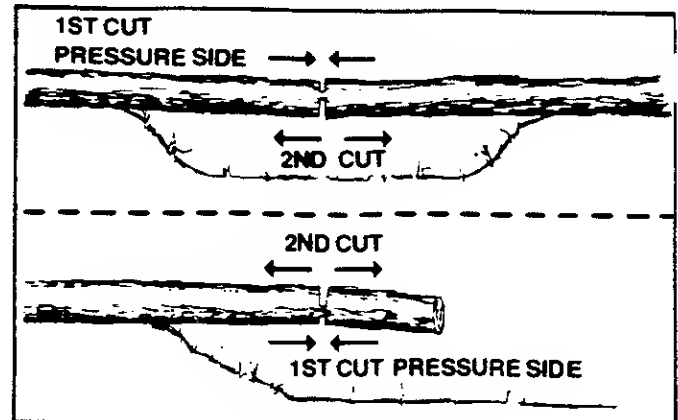

Figure 23
- Give special attention to logs under strain to prevent the saw from pinching. Make the first cut on the pressure side to relieve the stress on the log. Figure 23.